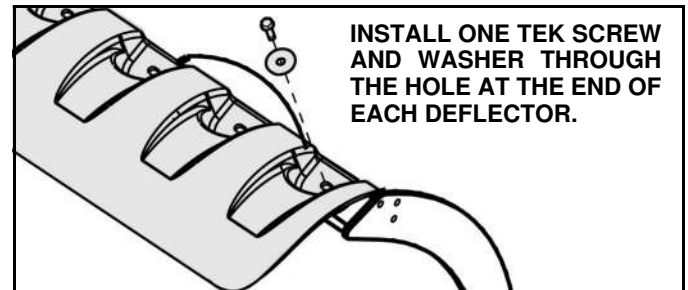

Figure 1-3
5. With all deflector sections clamped in place on the blade, install one self drilling tek screw (P/N 98100386) and washer (P/N 98100497) through the hole in the deflector closest to the end of the blade. (See Figure 1-3). Repeat this step for the opposite deflector.